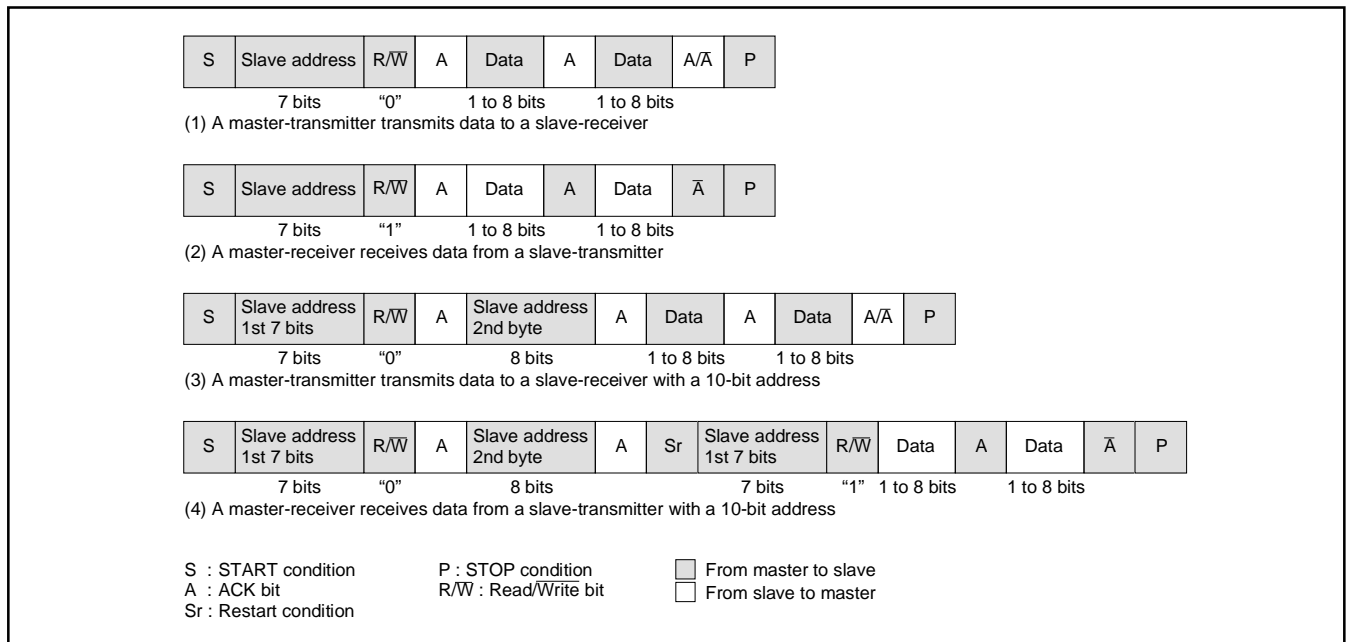

Fig. 8.6.12 Address Data Communication Format
(1) 7-bit addressing format
To meet the 7-bit addressing format, set the 10BIT SAD bit of the I²C control register (address 00F9₁₆) to "0." The first 7-bit address data transmitted from the master is compared with the high-order 7-bit slave address stored in the I²C address register (address 00F7₁₆). At the time of this comparison, address comparison of the RBW bit of the I²C address register (address 00F7₁₆) is not made. For the data transmission format when the 7-bit addressing format is selected, refer to Figure 8.6.12, (1) and (2).
(2) 10-bit addressing format
When the first-byte address data matches the slave address, the AAS bit of the I²C status register (address 00F8₁₆) is set to "1." After the second-byte address data is stored into the I²C data shift register (address 00F6₁₆), make an address comparison between the second-byte data and the slave address by software. When the address data of the 2nd bytes matches the slave address, set the RBW bit of the I²C address register (address 00F7₁₆) to "1" by software. This processing can match the 7-bit slave address and R/W data, which are received after a RESTART condition is detected, with the value of the I²C address register (address 00F7₁₆). For the data transmission format when the 10-bit addressing format is selected, refer to Figure 8.6.12, (3) and (4).